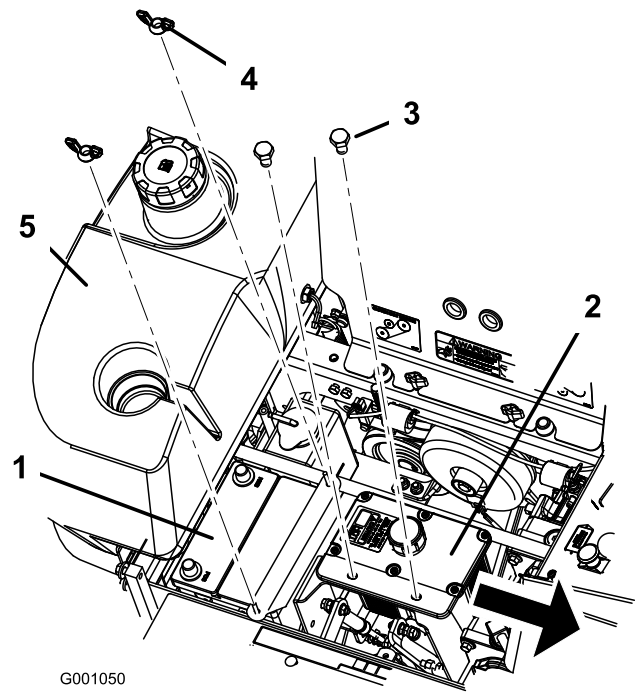

Figure 49
6. Remove both wing nuts (1/4 inch) securing the battery clamp (Figure 49).
7. Remove the two bolts holding the hydraulic tank in place (Figure 49).
6. Secure battery with J-bolts, hold down clamp and 2 washers (1/4 inch), and 2 wing nuts (1/4 inch) (Figure 49).